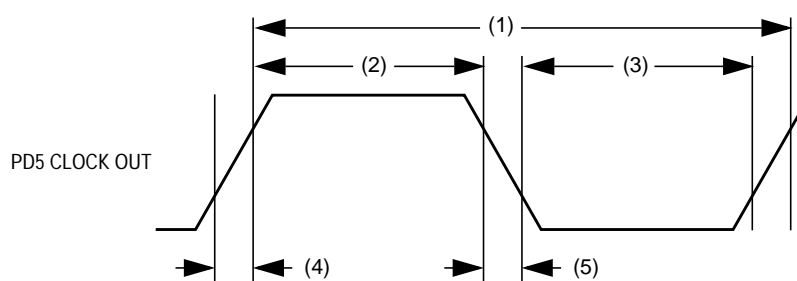

Figure 13-2. PD5 Clock Out Timing
1. The numbers shown in the symbol column correspond to those shown in Figure 13-2.